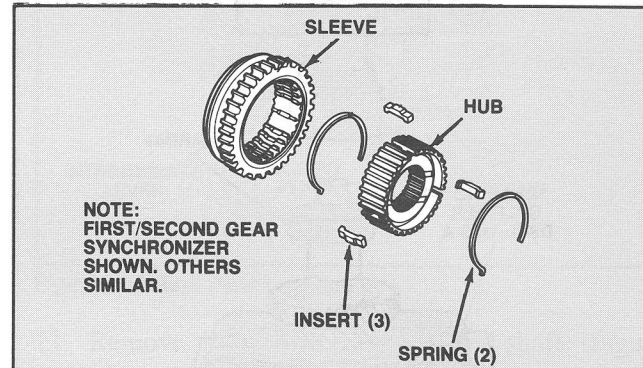

Figure 79 Synchronizer Disassembled View
1. Slide the hub and inserts out of the hub. (Figure 79).